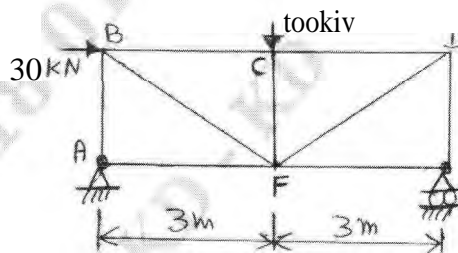

Fig.Q2(c)
- c. Determine the force in the members CD, IMF, EF and CF for the pin jointed plane truss as shown in Fig.Q2(c) by the method of sections. (07 Marks)